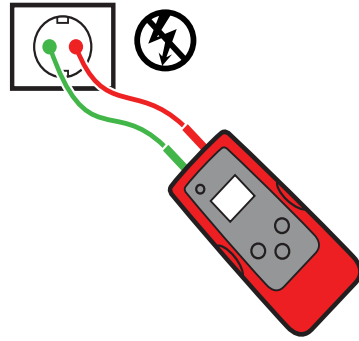

Figure 3.5a
3. Connect red and green test leads to Line and Neutral wires of the same receptacle or wire (see figure 3.5a).\*